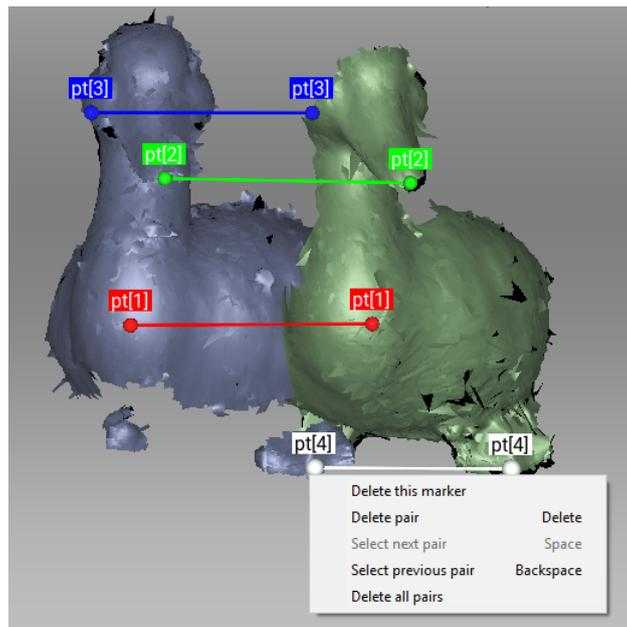
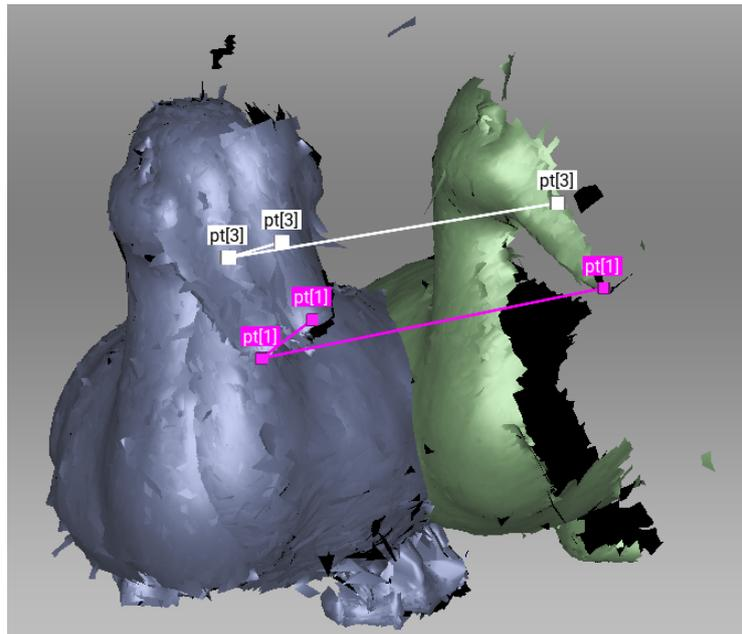

Figure 81: Creation of point pair.
Figure 87: Before alignment: two point-set added.
When specifying points in the *Rigid* and *Nonrigid* modes, the application automatically creates pairs. Having specified one pair, you can immediately create the next one. In *Complex* mode you must confirm set creation by hitting `Space` or by clicking *New set* from the left panel, because the set may comprise multiple points (see Figure 81 and Figure 87).
3. Specify several point pairs (Figure 81), keeping in mind the recommendations from *Specifying Points and Editing Their Positions*.
3. Specify one or more point sets on the scan surface (see Figure 87), keeping in mind the recommendations in *Specifying Points and Editing Their Positions*.